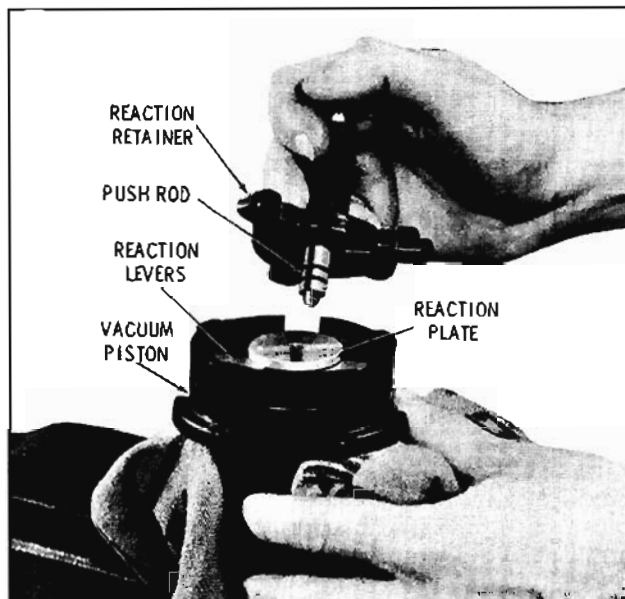
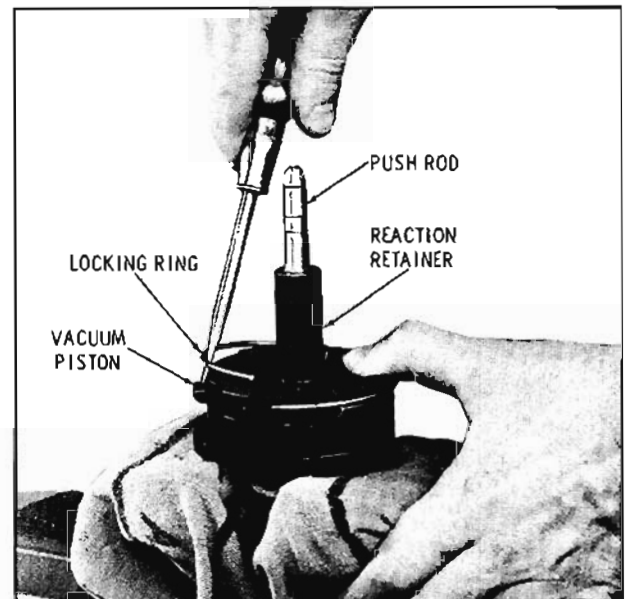

Fig. 11-38 Installing Reaction Retainer
Fig. 11-39 Installing Locking Ring
19. Position the reaction retainer and push-rod as shown in Fig. 11-38. While retaining pressure on the reaction retainer, install the lock ring as shown in Fig. 11-39.